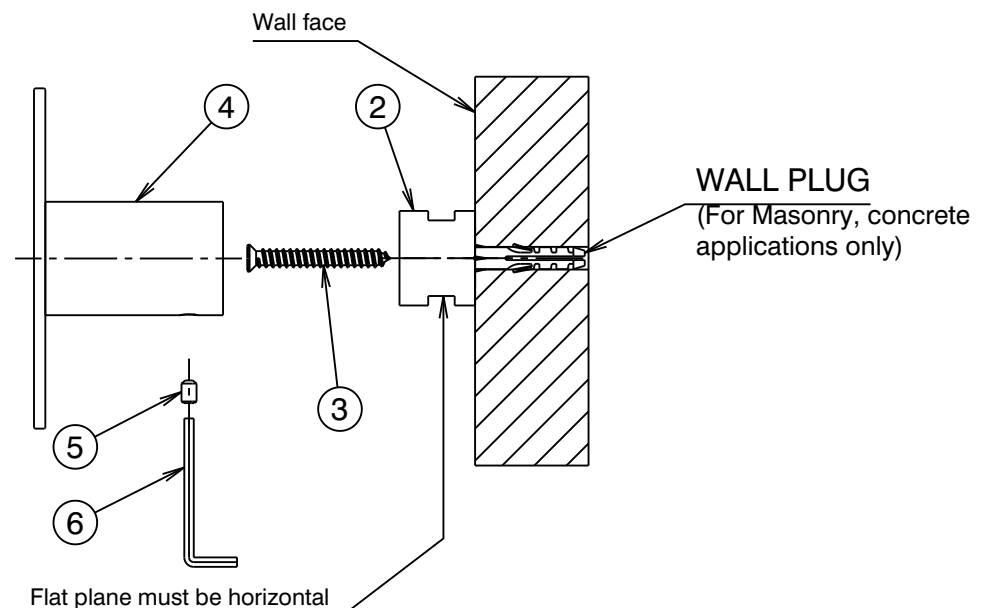

Fig. 2
Position mounting block (2) in desired location against wall or fixing surface while ensuring the flat surface over the mounting block (2) is horizontal as shown in Fig. 2, then use a pencil to mark screw holes position on the wall.
- 1) Determine a suitable position to attach the mounting block (2) so that it can be fixed to a stud or noggin in the wall.
- 2) Ensure correct orientation of the mounting block (2) is as shown in Fig. 2. Drill Ø3.2mm holes at the marked positions, then place mounting brackets (2) while aligning the fixing slots/holes on mounting bracket (2) with the holes on the wall. Then fix using screws (3) through the mounting bracket (2) and timber stud or noggin.